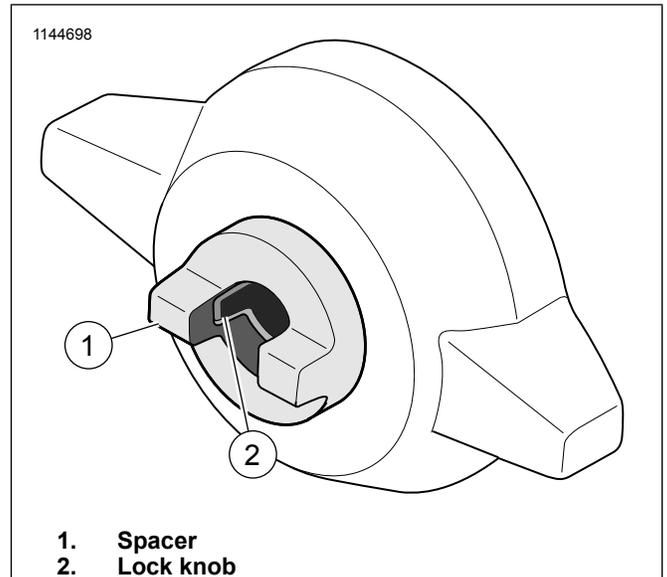

Figure 8. Install Spacer
4. Refer to Figure 8. Install spacer (1) fully onto lock knob (2).